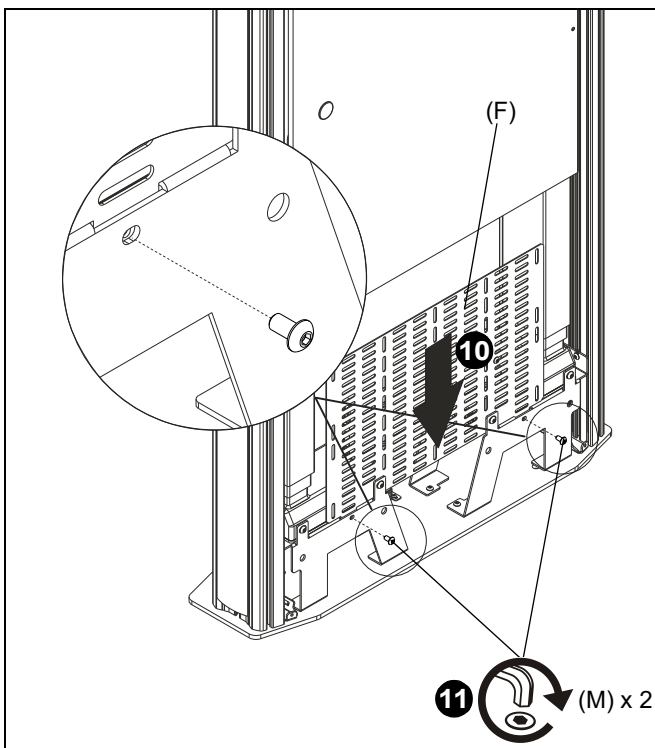

Figure 6
10. (Optional) Place component bracket (F) in mounting position. (See Figure 6)
11. (Optional) Use two #10-24 x 3/8" button head cap screws (M) to secure component bracket. (See Figure 6)